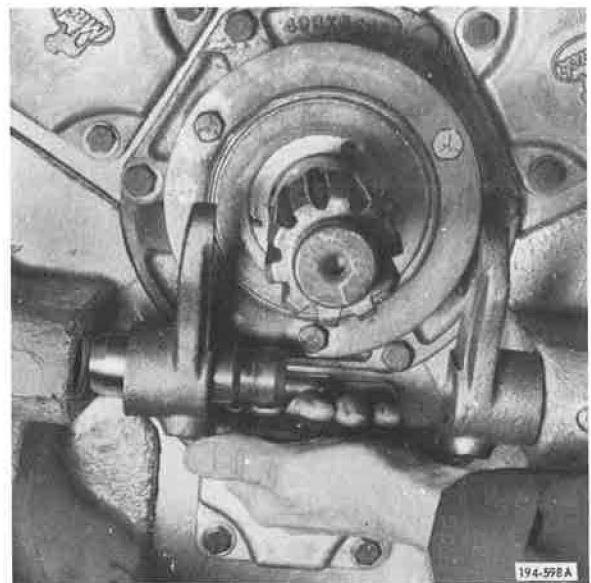

Figure 11. Removing Yoke and Stub Shaft
6. Slide clutch release stub shaft inward, and remove it with clutch release yoke. See Figure 11.